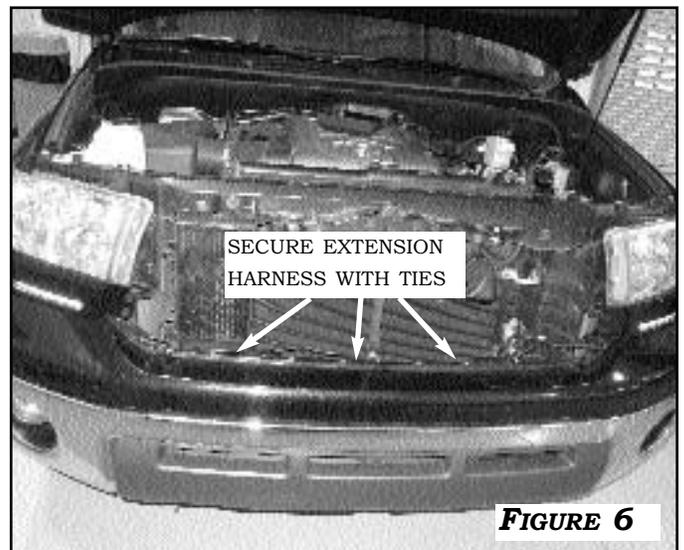

FIGURE 6
2. CONNECT THE DRLs TO THE DRL EXTENSION HARNESS AND ROUTE THE HARNESS ALONG THE FRONT BUMPER SO THAT THE 4-PIN WATERPROOF CONNECTOR AT THE END OF THE HARNESS REACHES THE AREA BEHIND THE LEFT (DRIVER SIDE) HEADLIGHT. SECURE THE HARNESS TO THE FACTORY WIRING AND BUMPER STRUCTURE WITH WIRE TIES. **FIGURE 6**